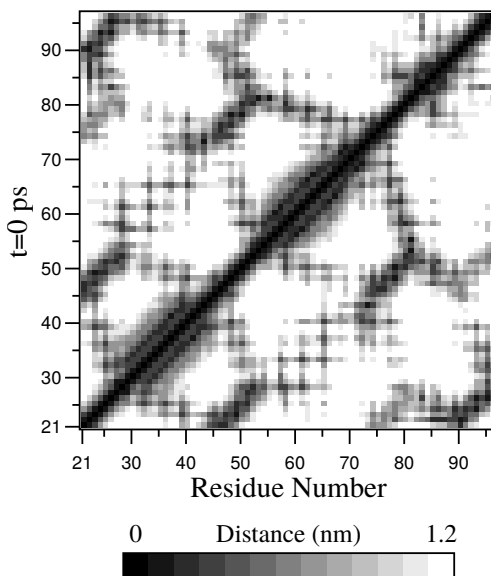

Fig. 5.58: A minimum distance matrix for a peptide *168* (page 540).
- To monitor the *minimum distances between amino acid residues* within a (protein) molecule, you can use the program *gmx mdmat* (page 184). This minimum distance between two residues  $A_i$  and  $A_j$  is defined as the smallest distance between any pair of atoms ( $i \in A_i, j \in A_j$ ). The output is a symmetrical matrix of smallest distances between all residues. To visualize this matrix, you can use a program such as *xv*. If you want to view the axes and legend or if you want to print the matrix, you can convert it with *xpm2ps* (page 255) into a Postscript Fig. 5.58.